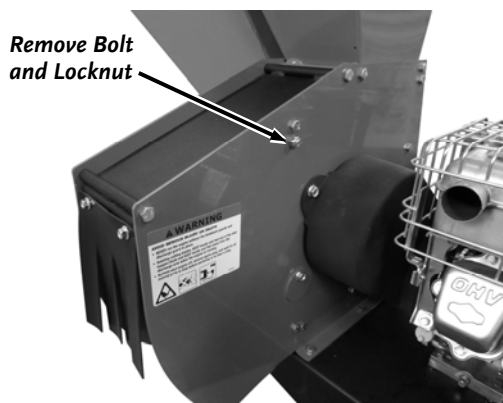

Figure 10
2. Remove the top Screen Bolt and Locknut using two 1/2" Wrenches (**Figure 10**).